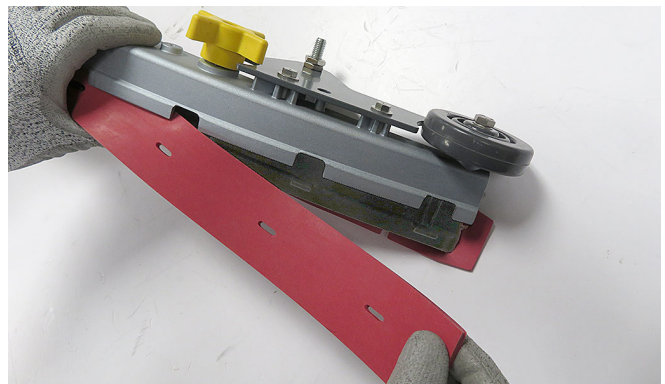

FIG. 137
3. Remove worn blade(s) from the blade retainer (Figure 137).